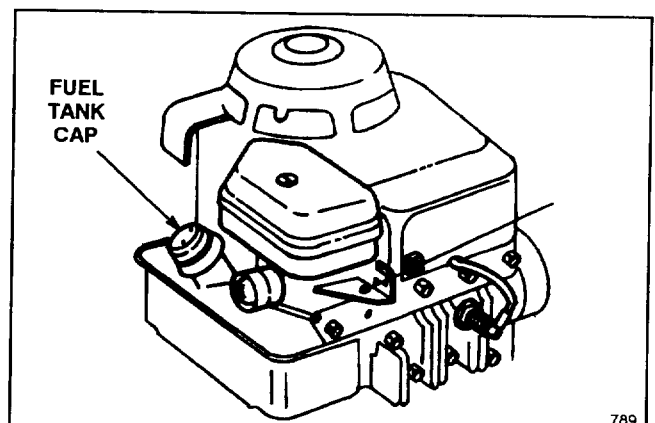

Figure 5
1. Clean around fuel tank cap and remove cap from tank (Fig. 5). Do not fill tank full. Using unleaded gasoline, fill fuel tank to within 1/4" to 1/2" (6